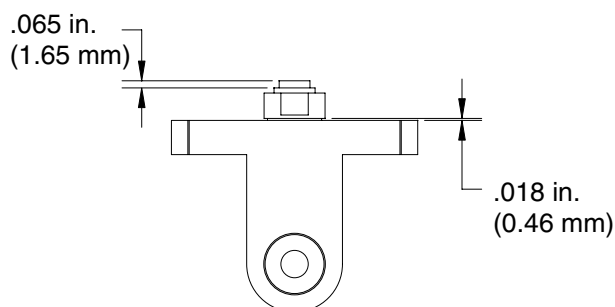

FIG. 9: Side Seal
- Check side seal for wear by measuring how far seal protrudes from side seal assembly insert. A worn side seal promotes chemical leakage. Replace side seal if it protrudes 0.065 in. (1.65 mm) or less. In addition, check seal for scratches, which also promote leakage. See FIG. 9.
- Inspect check valve assembly for damage by measuring gap between mating surface of side block and bottom edge of side seal assembly insert. If gap measures 0.018 in. (.46 mm) or less, the check valve assembly has been crushed due to overtightening and it must be replaced. See FIG. 9.